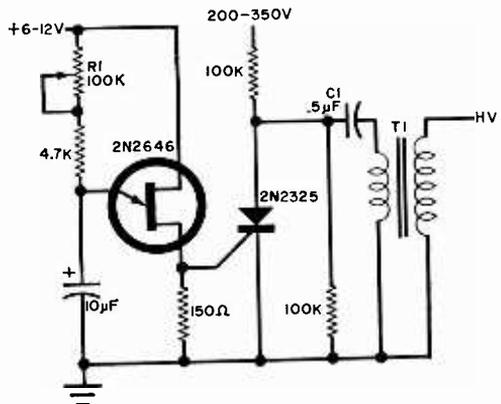

**Fig. 3.** When S1 is closed, C1 discharges through primary of transformer producing the high-voltage spike.
**Trigger Circuits.** The basic trigger circuit is shown in Fig. 3. When switch S1 is open, the high-voltage dc charges capacitor C1